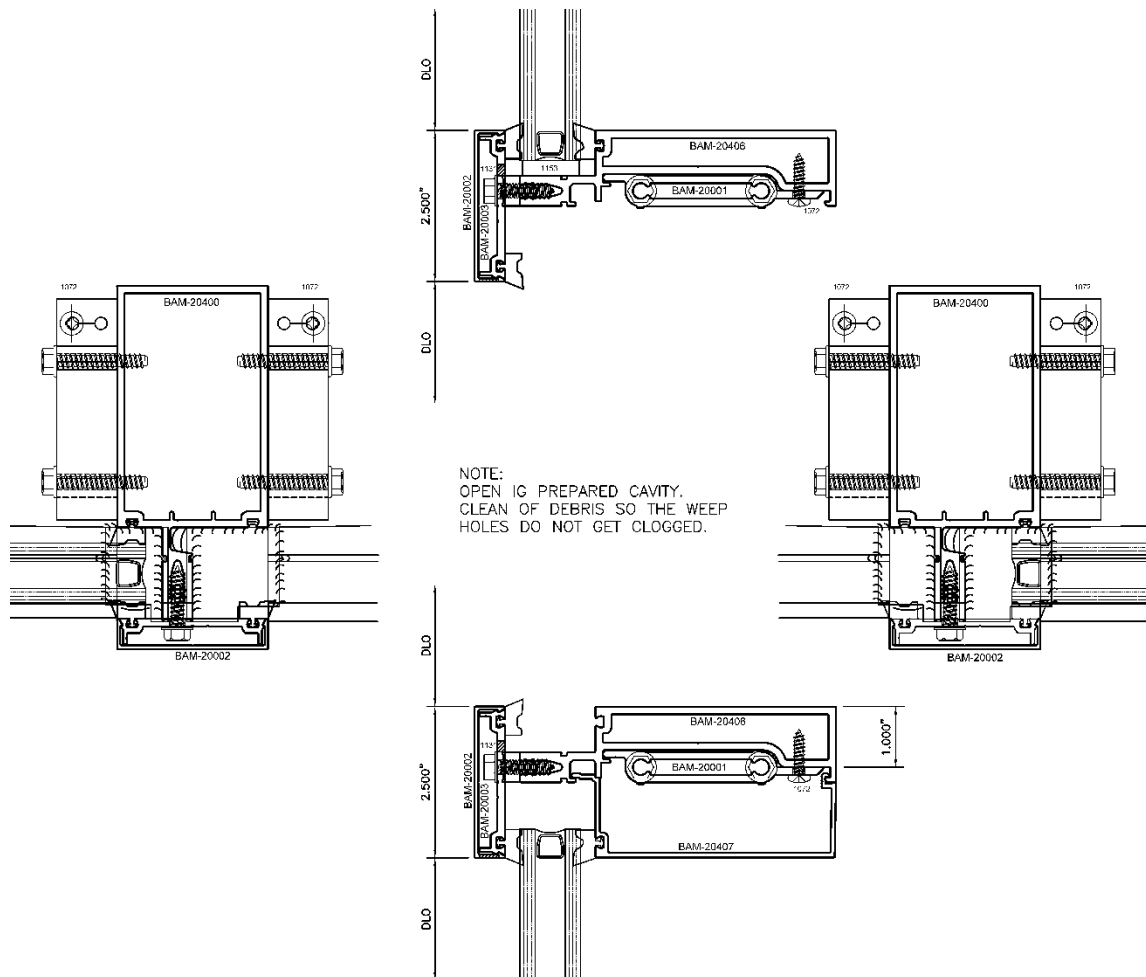

FIGURE X.1
- Notes: Typically the intent is for reglazing, but can be inside glazed from start. (FIGURE X.1)